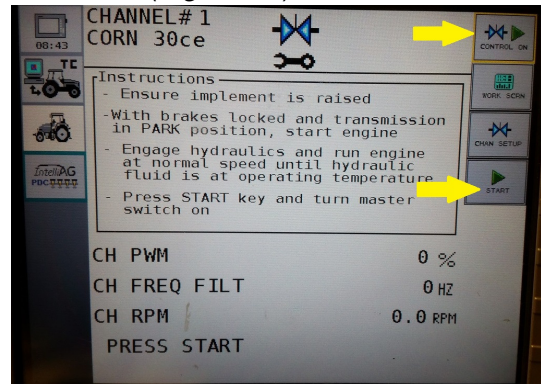

Figure 46
Step 6. Select **START** icon and then the **Control ON**. (Figure 46)